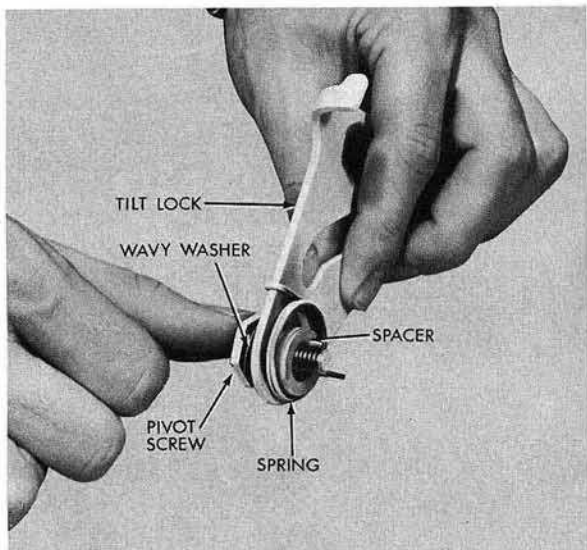

Figure 7 — Tilt Lock Assembly
- C. Install nylon spacer then spring on pivot as shown in figure 7.